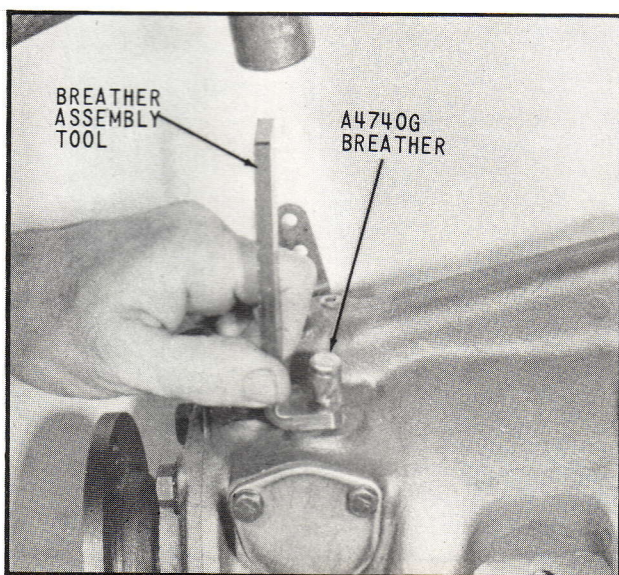
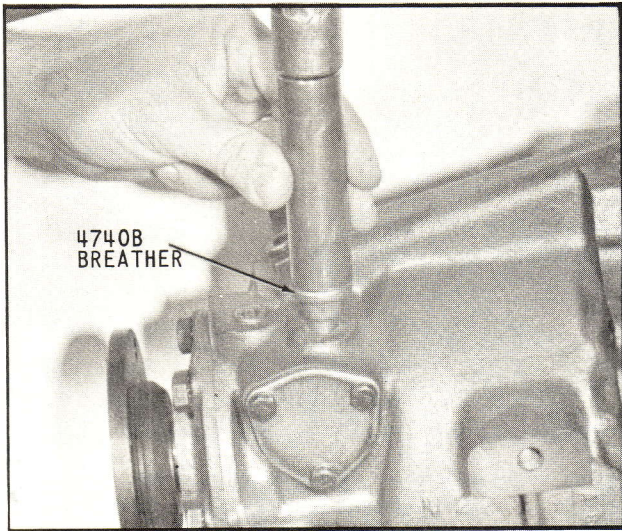
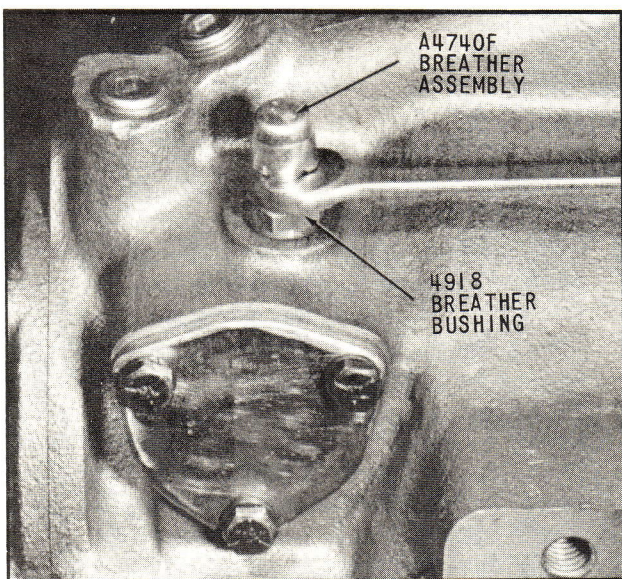

Fig. 78 Installation of Breather Assembly
Fig. 87 Installation of Breather Assembly
Fig. 88 Adapting Breather Assemblies
79. Install the breather assembly as shown in (Fig. 78). Do not hammer on the top of the breather assembly illustrated as this will damage the sealing element. For installation of other type breather assemblies see page 48, (paragraphs 3 & 4) for instructions.
3. In addition to the breather assembly shown in (Fig. 78), other breather assemblies will be found in use as illustrated in (Fig. 87) and (Fig. 88). The above illustrations demonstrate the manner in which these breather assemblies are installed.
4. The breather in (Fig. 88) is supplied for those installations where a pressure type breather replaces the breather shown in (Fig. 87). This breather is used with an internally threaded bushing which presses into the case before the installation of the threaded breather assembly.